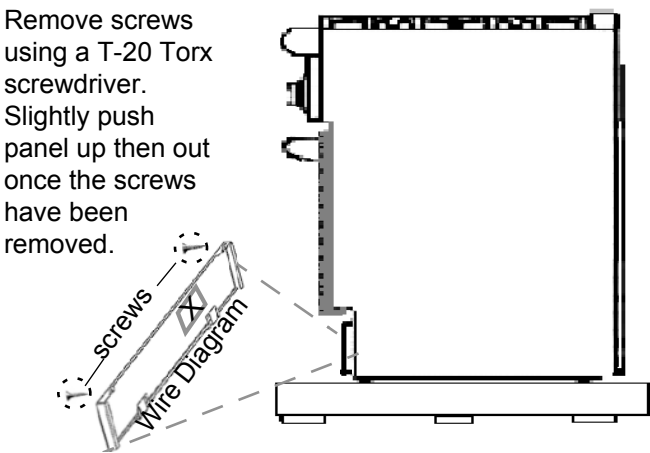
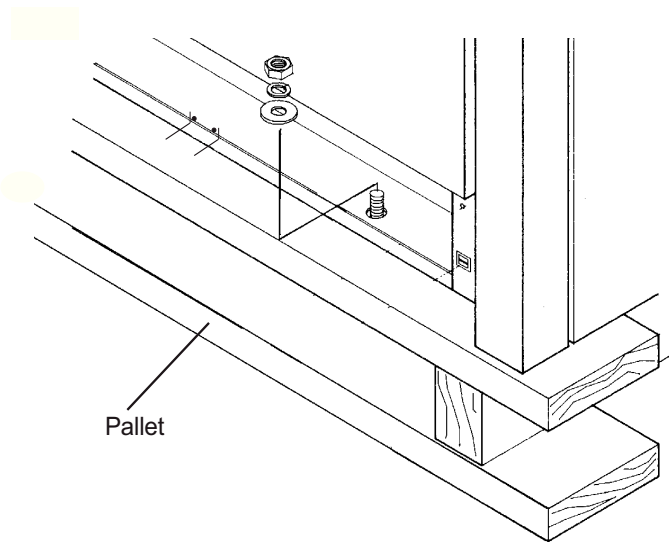

Figure 4: Remove Kick Panel
Figure 5: Removal of the Four Shipping Bolts
- The ranges are held to the pallet by four (4) bolts (see *Figure 5*). The front kick panel must be removed to access the bolts in the front of the pallet (see *Figure 4*). To remove the Kick Panel, remove the two screws below the lower corners of the oven cavity and lift the Kick Panel away from the two projections on the range's cast base (see also "*Kick Panel Adjustment*" on page 26).